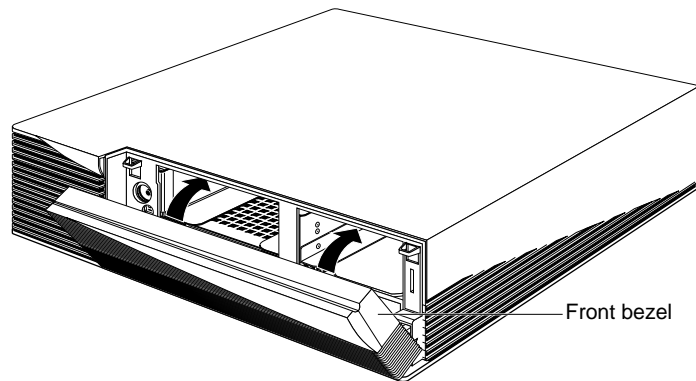

Figure 5-4 Replacing the front bezel on the Indigo² chassis
3. Replace the front bezel and place the tabs on the bottom of the bezel in the grooves in the front of the chassis, as shown in Figure 5-4.